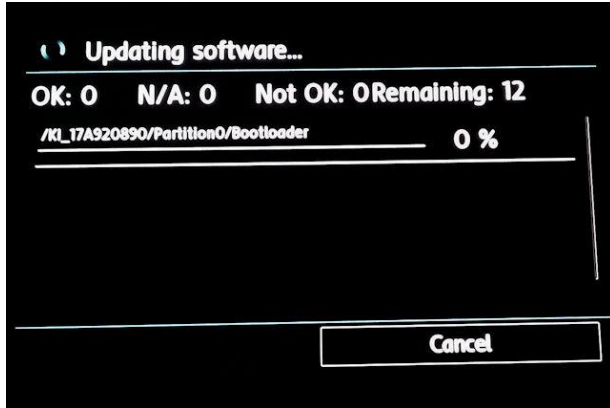

Figure 3.
8. The progress is also displayed on the infotainment system display (Figure 3).